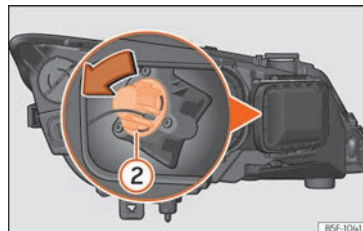

Fig. 58 Turn signal bulb.
- Turn the bulb holder » **Fig. 58** ② anti-clockwise and pull.